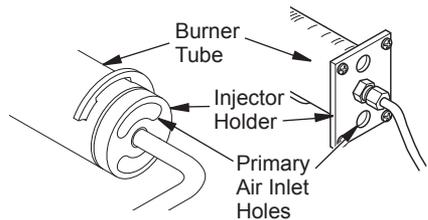

Figure 47 - Injector Holder On Outlet Burner Tube (Burner will vary by model)
2. Inspect burner, pilot and primary air inlet holes on injector holder for dust and dirt (see Figure 47).